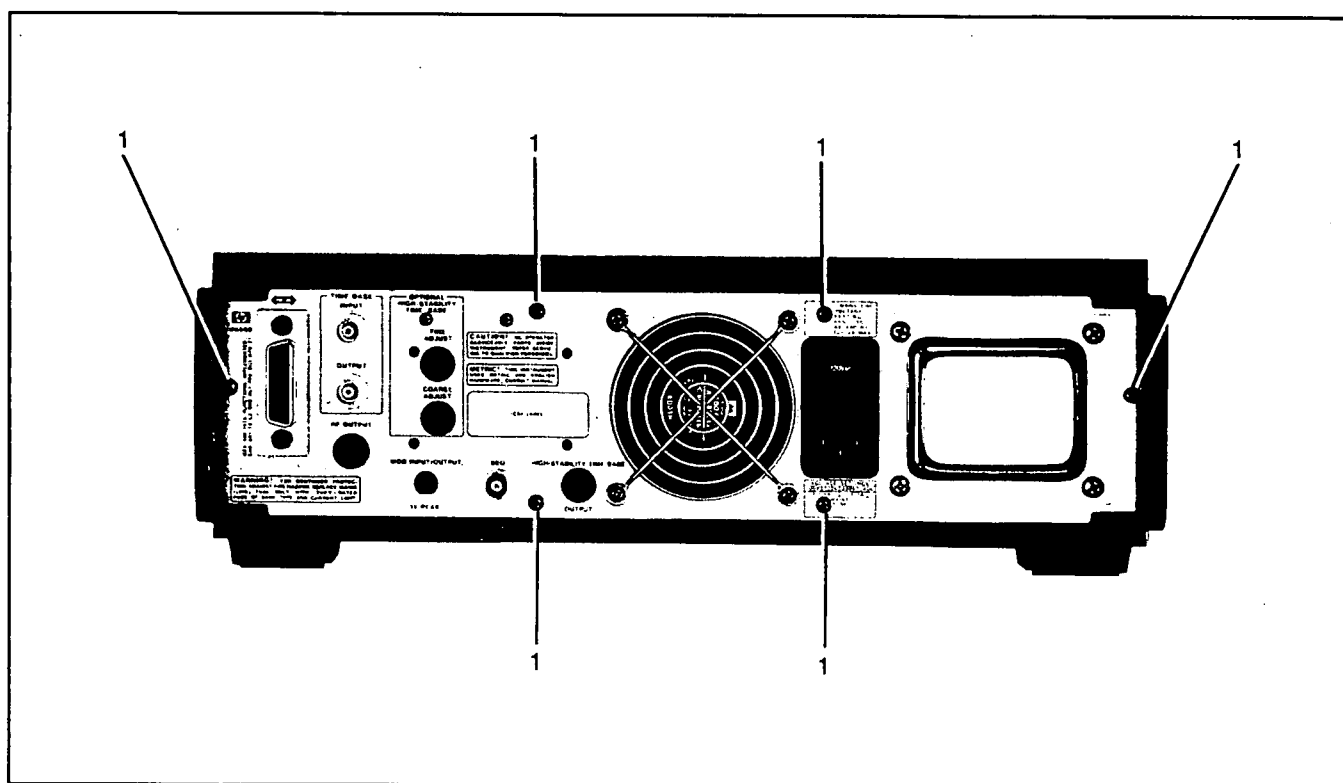

**Figure 8-3.** Rear Panel Removal.
**Rear-Panel Removal.** Position the Signal Generator so you are facing the rear-panel as shown in Figure 8-3.
1. Remove six No.2 Pozidriv screws and lockwashers (items 1).